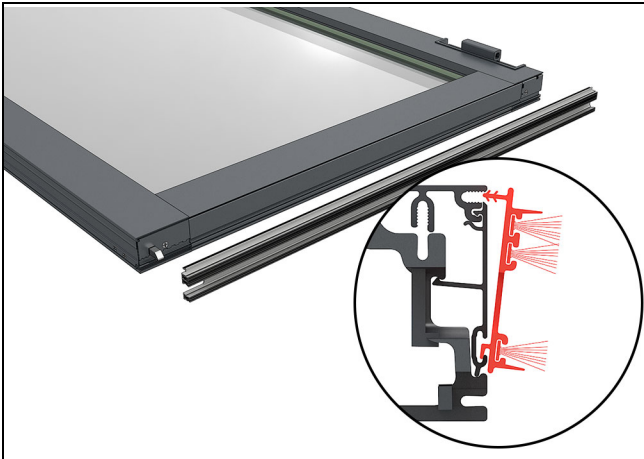

Figure 26
1. When using a **saddle sill** attach the sill weatherstrip on the bottom of the active panel. See Figure 26